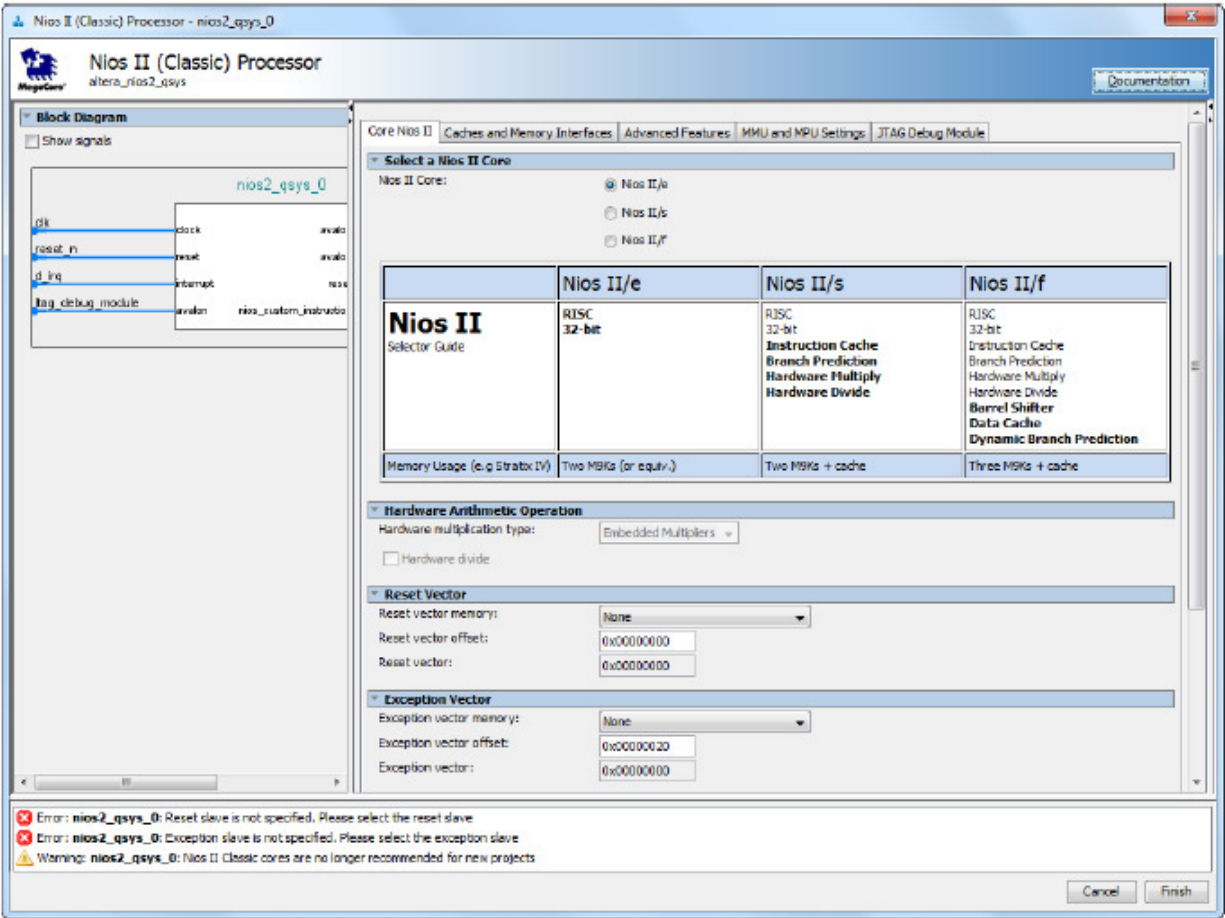

Figure 5 Create a Nios II processor
- On the left side of the Qsys window expand **Processors and Peripherals**, select **Embedded Processors > Nios II (Classic) Processor** and click **Add...**, which leads to the window in Figure 5.